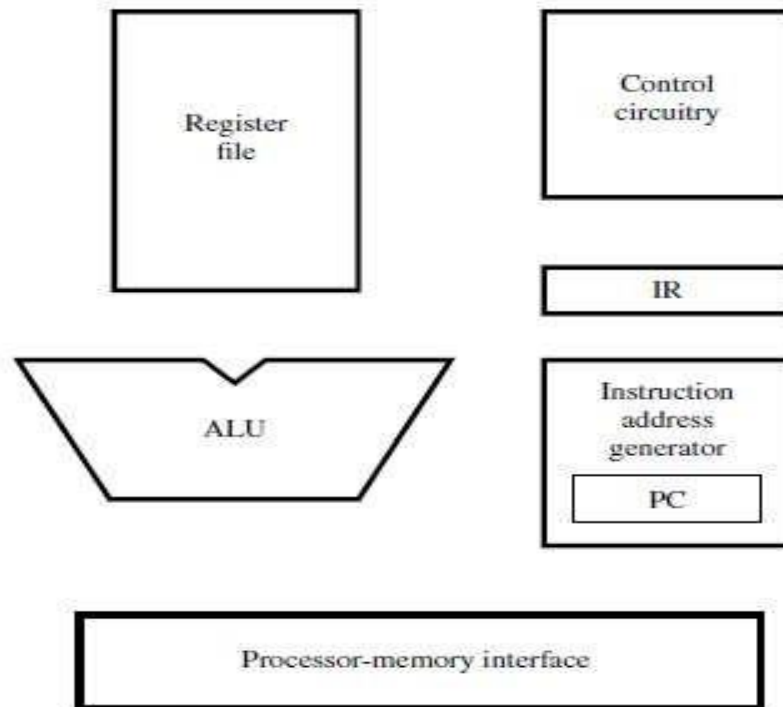

Figure 5.1 Main hardware components of a processor.
- The hardware-components needed to perform these actions are shown in Figure 5.1.